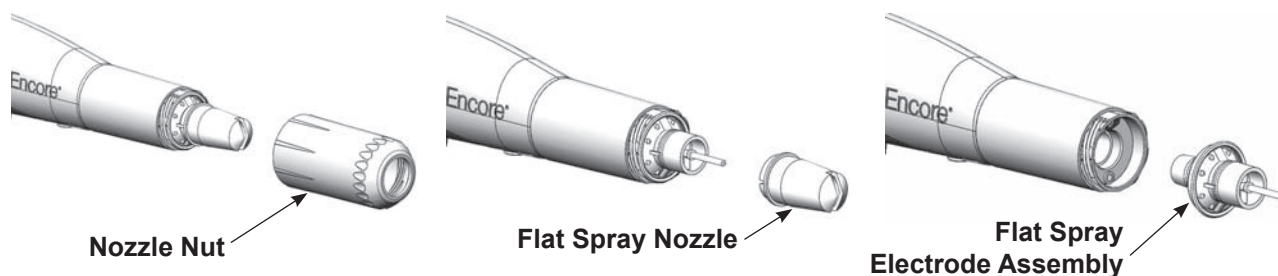

Figure 6 Changing a Flat Spray Nozzle
2. See Figure 6. Unscrew the nozzle nut counterclockwise.